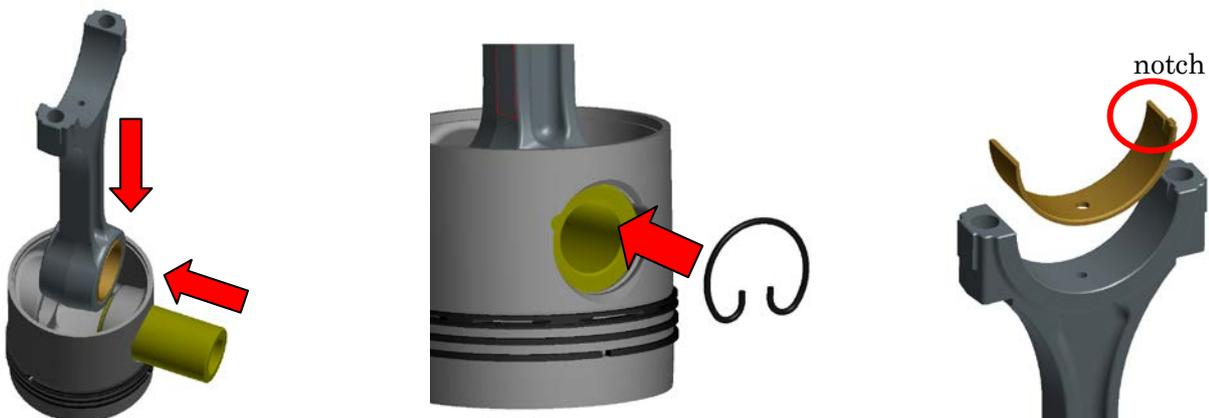

Fig. 9.14 Mounting Piston and Connecting Rod
- a. Place the piston upside down and attach the connecting rod small end using the piston pin (P/N86), as shown in Fig.9.14. Apply oil to the bearing halves of the connecting rod big end, the bearing portion of the connecting rod small end and the piston pin (P/N 86). The piston pin is loose fitted so it can be easily mounted in the pin hole of the piston by pushing it lightly.
- c. The bearing half metal locking claw should mate with the notch of the connecting rod cap (see Fig.9.14). There are two kinds of bearing halves. One has an oil hole and the other does not have it. The bearing half with a oil hole should be mounted on the connecting rod and the other on the connecting rod cap.